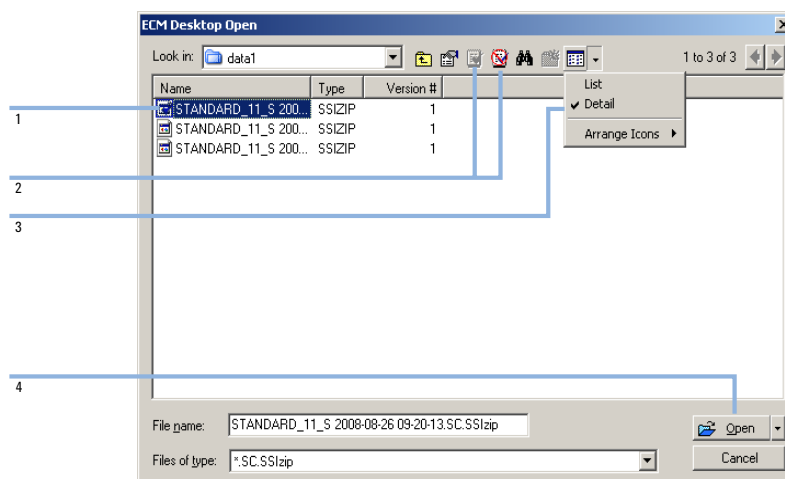
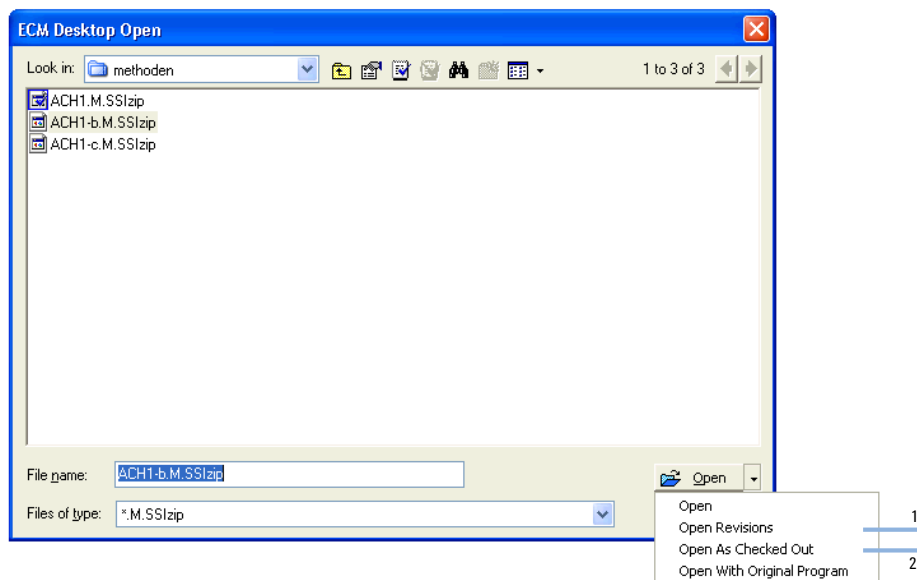
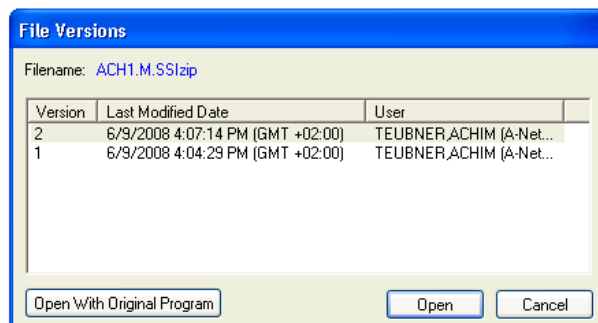

Figure 18 ECM Desktop Open dialog
Figure 19 Open Revisions command
Figure 20 File versions dialog
If the item is checked out, it is marked with a blue or red icon (see Figure 18 on page 73, marker 1):
To check out or check in an item, you can use the according icons available in the **ECM Desktop Open** dialog (see Figure 18 on page 73, marker 2). With these icons, you can only check out the latest version of an item.
In order to see more details regarding the type and version of the available items, select the **Detail** view (see Figure 18 on page 73, marker 3). To open an older version of an item, select the **Open Revisions** command from the **Open** menu (see Figure 19 on page 74, marker 1). This opens the **File Versions** dialog, where all available versions of the item are listed (see Figure 20 on page 75).
- 3 Select **Open** in either dialog to download the item to ChemStation. In order to prevent other users from modifying the item, it is possible to select the **Open As Checked Out** command to mark the item as checked out from ECM (see Figure 19 on page 74, marker 2).